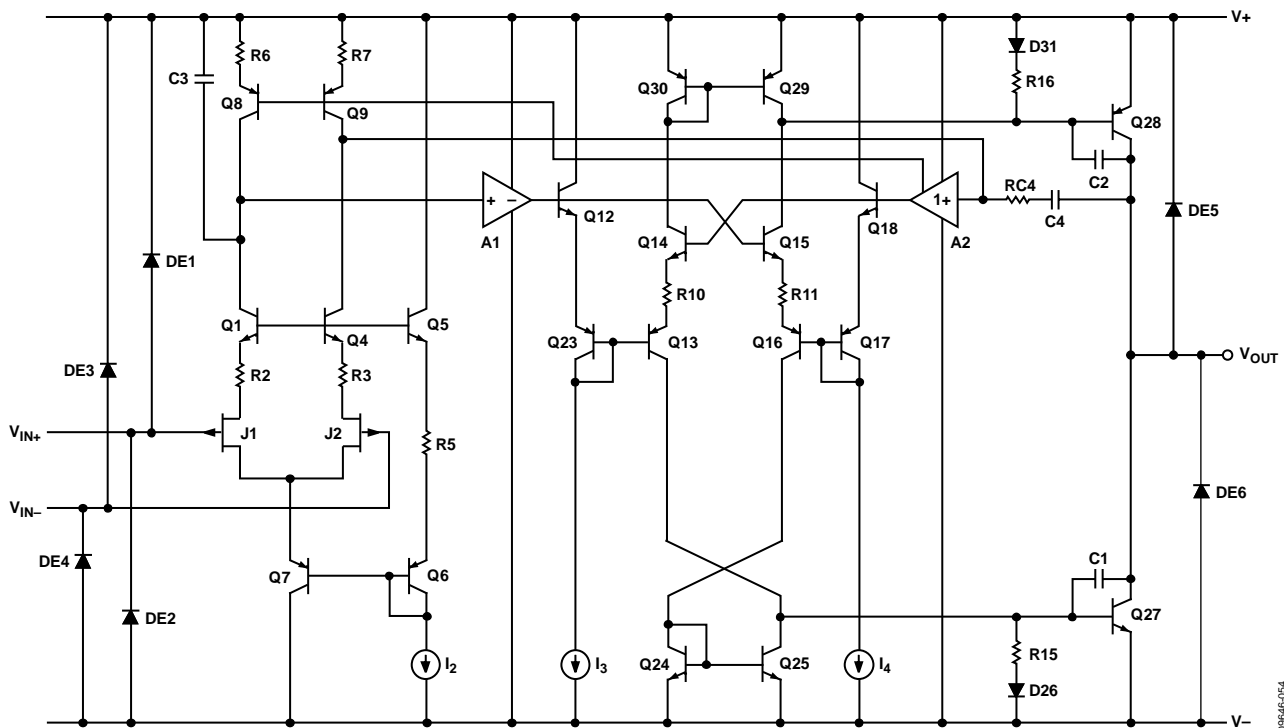

Figure 57. Simplified Schematic
The ADA4610-1/ADA4610-2/ADA4610-4 are manufactured using the Analog Devices, Inc., *iPolar*® process, a 36 V dielectrically isolated (DI) process with P-channel JFET technology. The unique architecture of the ADA4610-1/ADA4610-2/ADA4610-4 makes it possible to combine high precision and high speed characteristics into a high voltage, low power op amp. A simplified schematic for the ADA4610-1/ADA4610-2/ADA4610-4 is shown in Figure 57. The JFET input stage architecture offers advantages of low input bias current, high bandwidth, high gain, low noise, and no phase reversal when the applied input signal exceeds the common-mode voltage range. The output stage is rail to rail with high drive characteristics and low dropout voltage for both sinking and sourcing currents.